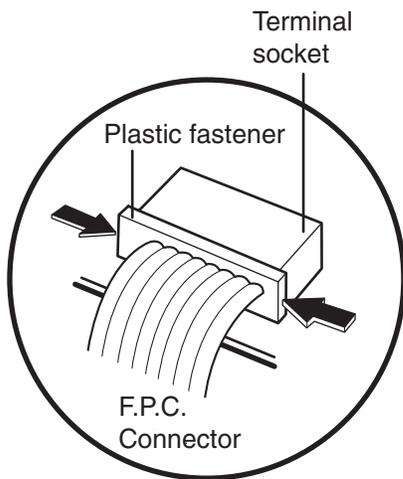

Figure 14
Follow the steps below as illustrated in Figures 14 and 15 to remove the F.P.C. connector.
- (1) Hold the edges of the plastic fastener with thumb and forefinger. (Figure 14)